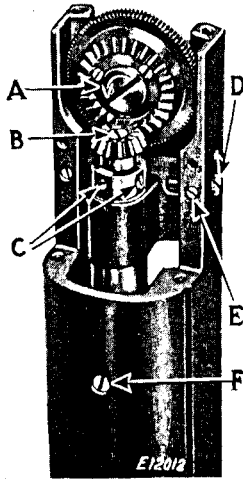

Fig. 25.
The height of the feed wheel is regulated by eccentric stud (D, Fig. 25). To raise or lower the feed wheel, loosen the set
screw (F, Fig. 25) and turn the eccentric stud (D, Fig. 25) to right or left until the feed wheel is at the desired height, then securely tighten the set screw (F).
Remove feed post cover plate, also throat plate, then remove the hook, as instructed on page 21. Loosen set screw (F, Fig. 25) and adjust the feed to its highest point, then remove eccentric stud (D, Fig. 25). The feed wheel assembly can be withdrawn from the post. Loosen set screws (C, Fig. 25) and draw out the shaft from the bottom. Remove screw (A, Fig. 25) and remove feed wheel. (**Caution:** Screw (A, Fig. 25) is made with a left hand thread and must be turned to the right to be removed.)
Before replacing the pinion gear, be sure that the thrust washer is placed under it, then tighten set screws (C, Fig. 25).
When replacing feed wheel assembly into the feed post, the tongues on the ends of the shaft connection must enter the slots in the ends of the upper and lower shafts before replacing the eccentric stud (D, Fig. 25) and setting the feed wheel as instructed on previous page. (**Caution:** Only slight pressure of set screw (E) against stud (D) is required.)